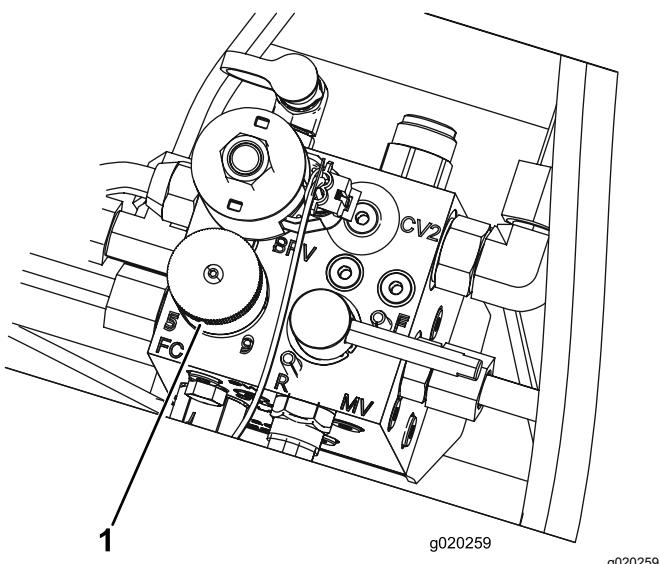

Figure 34
4. To set the reel speed, rotate the knob (Figure 34) until the indicator arrow is in line with the number designating the desired setting.